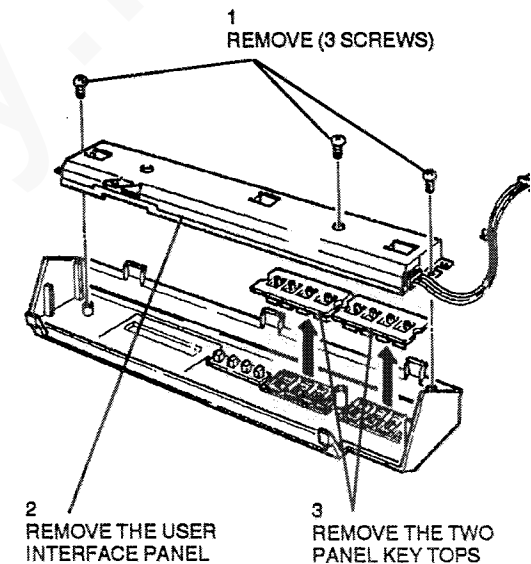

Figure 1. User interface cover removal
2. (Figure 1) Remove the user interface cover.